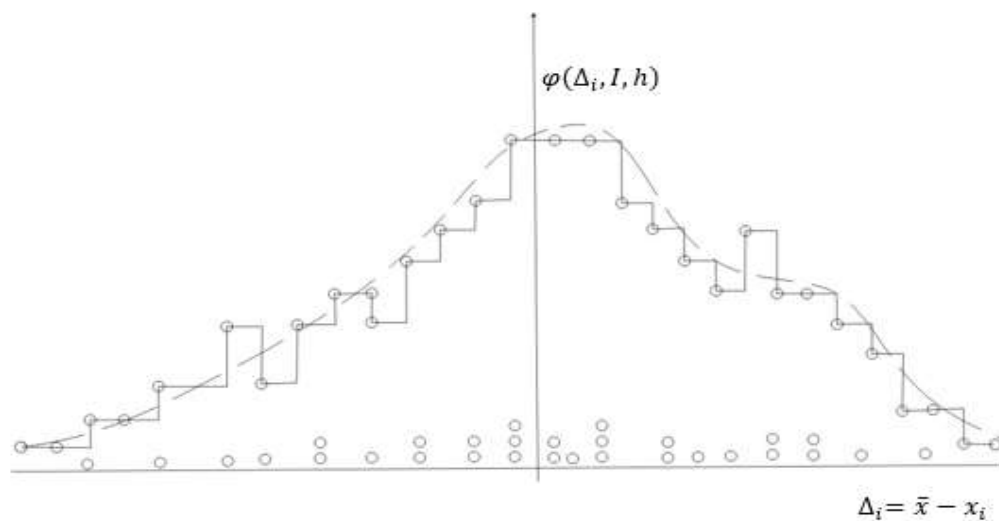

Fig. 3 Construction of the empirical distribution curve of random errors
1. We bring the size of both positive and negative apparent deviations  $\Delta_i = \bar{x} - x_i$  on the horizontal axis of Fig. 3. We mark each individual error on this axis with ring.
4. We move with this interval in appropriately small steps (eg.  $1/5 I$ ) on horizontal axis from one side to the other and gradually find out the number of the deviations  $\Delta_i$  in that interval I, which we bring on the vertical axis in the middle of interval I in scale (see example in Fig. 3).